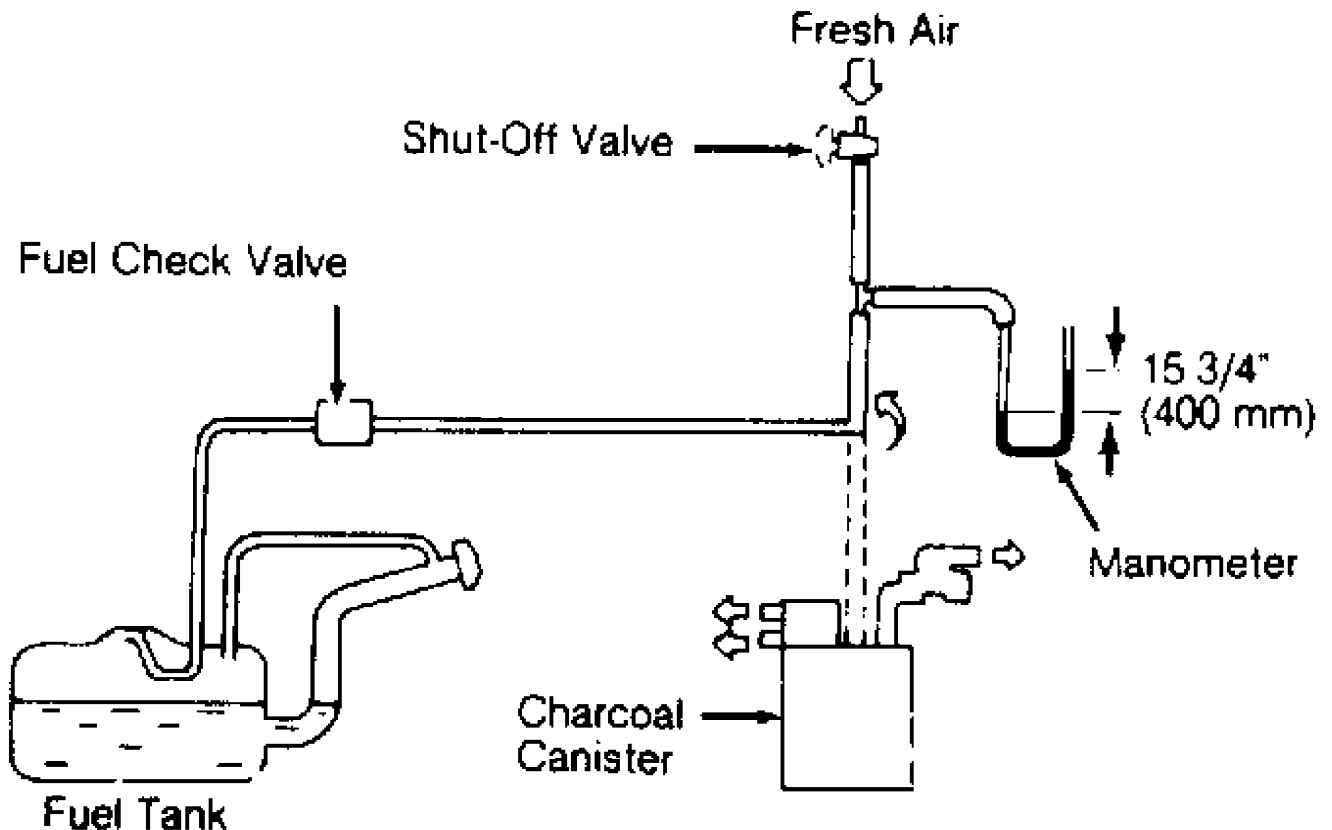

Fig. 3: Testing Fuel Vapor Vent Line
1) Check all hoses and fuel filler cap for leaks. Disconnect fuel tank vapor hose at canister. Attach "T" fitting, manometer, and shutoff valve to hose. See Fig. 3.